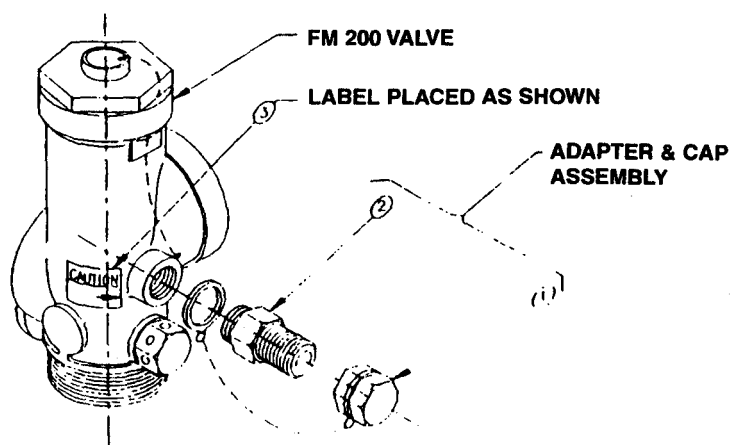

Figure 4.10 - Installation of Master Cylinder Adapter Kit
5. Attach label to valve body (See Figure 4.10).